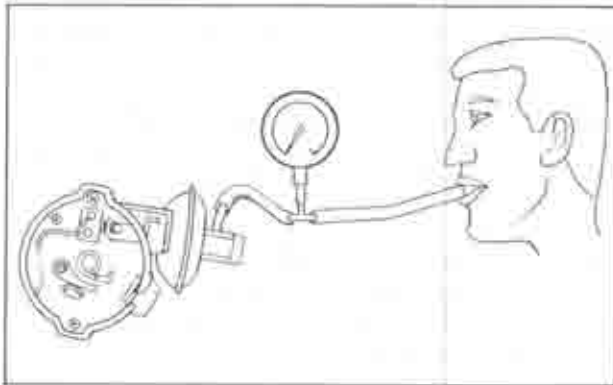

Fig. 1A-44 Checking of vacuum switch.
2. Remove the vacuum sensing tube from the vacuum advancer of the leading spark plug distributor, then attach the vacuum gauge in its place as in Fig. 1A-44.